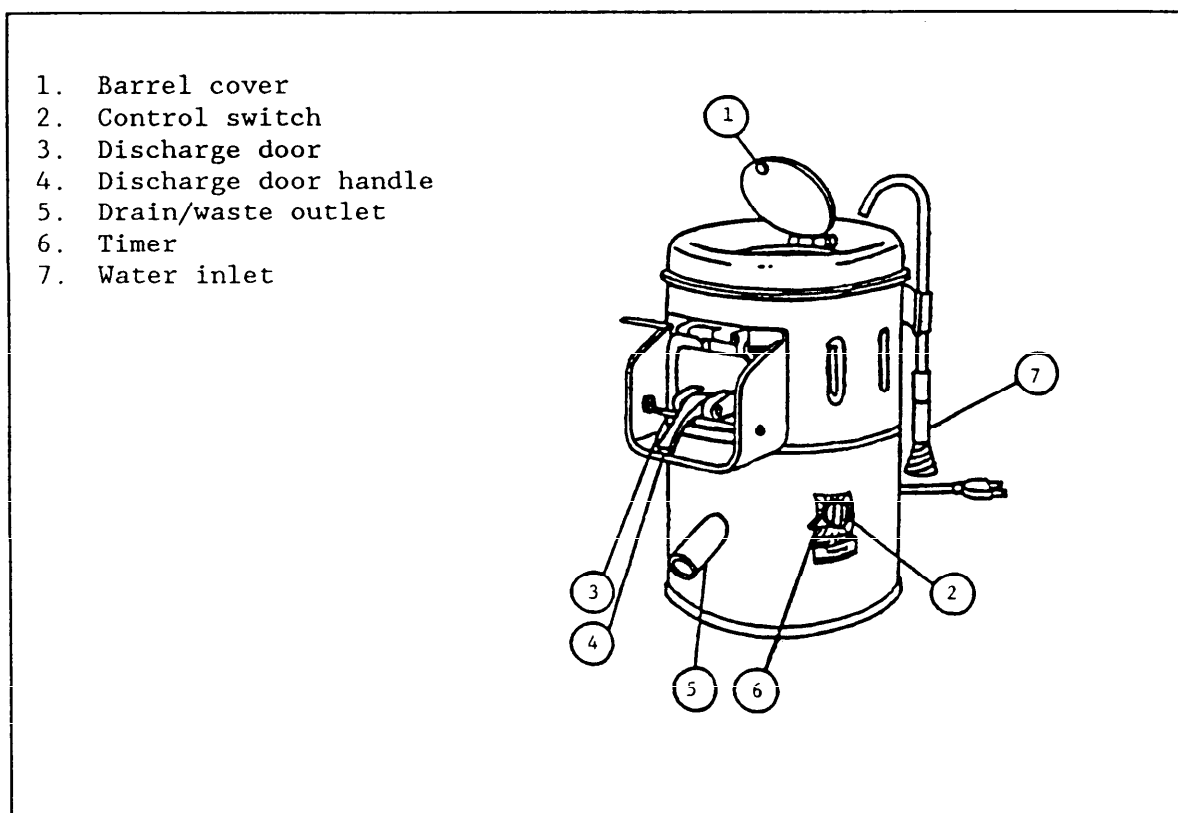

Figure 4
3.6.2 Major Peeler Components. Major peeler components include a motor and the components shown in Figure 4.